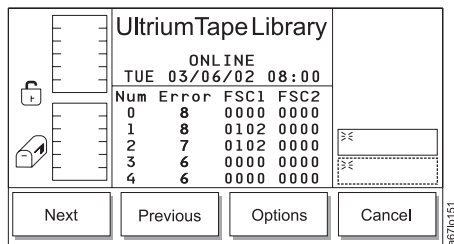

Figure 4-52. Drive Log Dialog
1. Specify the drive that you want by performing steps 1 through 5 in “Viewing the Drive’s Error Log” on page 4-30. The Drive Log Dialog displays (see Figure 4-52).